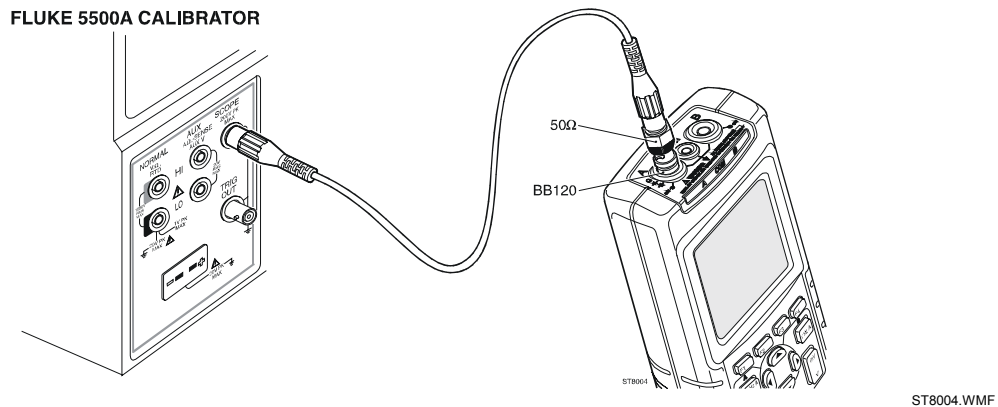

Figure 5-4. 5500A Scope Output to Input 1
2. Connect the test tool to the 5500A as shown in Figure 5-4.